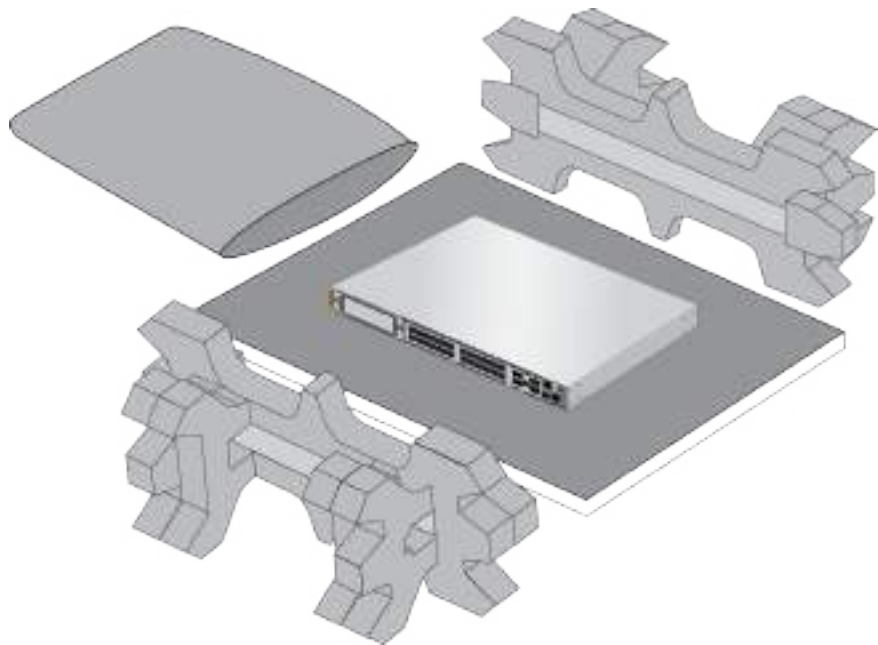

Figure 31. Removing the Switch from the Shipping End-caps and Protective Bag
4. Remove the switch from the shipping end-caps and protective bag. Refer to Figure 31.